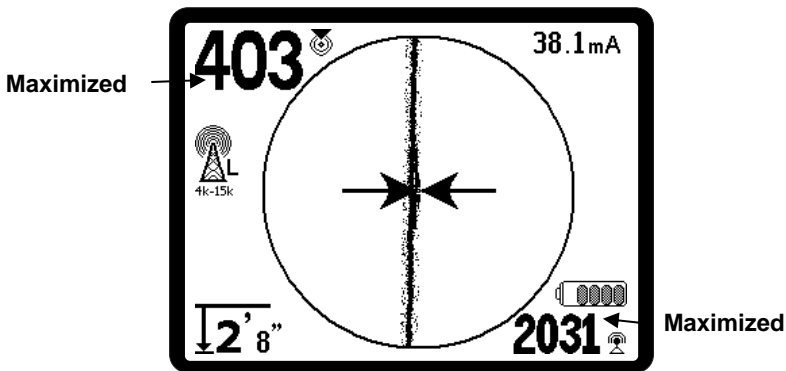

Figure 23: High Probability Locate
3. Use the Guidance Arrows, Proximity Number, Signal Strength, and Tracing Line to guide the line trace. These pieces of information are generated from discrete signal characteristics to help the operator understand the quality of the locate. An **undistorted** signal emitted from a line is strongest directly over that line. (Note: Unlike the Signal Trace lines, the guidance arrows require that the user *orient the locator* so that the guidance arrows point 90 degrees to the Signal Trace line. (See Figure 23).